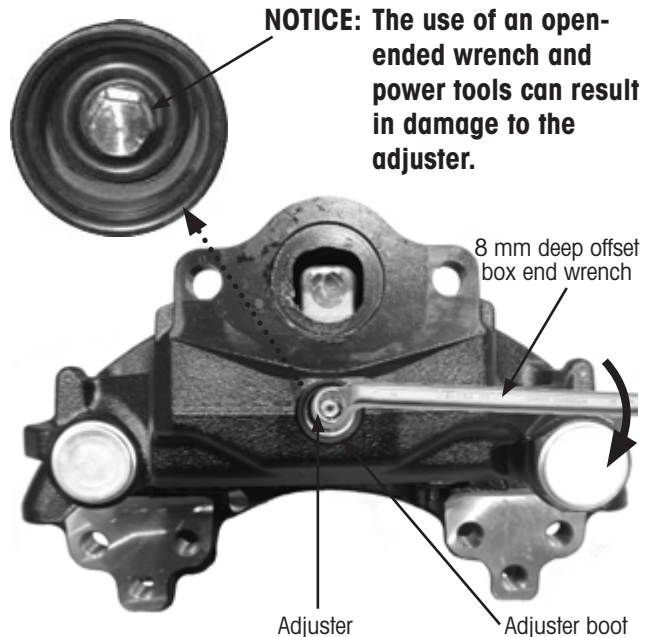

Figure 6: Checking adjuster movement.
4. Use an 8 mm deep offset box end wrench to **turn** the adjuster 1/2 turn clockwise (Figure 6).
- This step requires two people: **Gently apply the brake** 5 times (braking pressure is approximately 14.5 psi, 1 bar). If the adjuster functions correctly, the wrench will turn incrementally (Figure 6).
- The adjuster or the attached wrench does not turn (Figure 6).